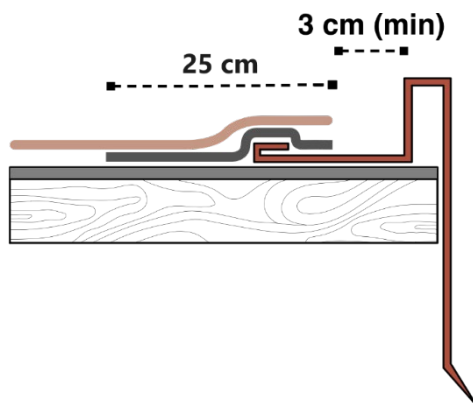

Fig. 17 - Lateral flashing detail
- Install the lateral flashings above the membrane applied to the roof. Apply a band of bituminous membrane, about 25 cm wide, to overlap the flashing. Proceed with the normal installation of the shingles by torch, as will be described below, above the lateral flashing. Leave a space of about 3cm between the end of the shingles and the edge of the lateral flashing. - Fig. 17.